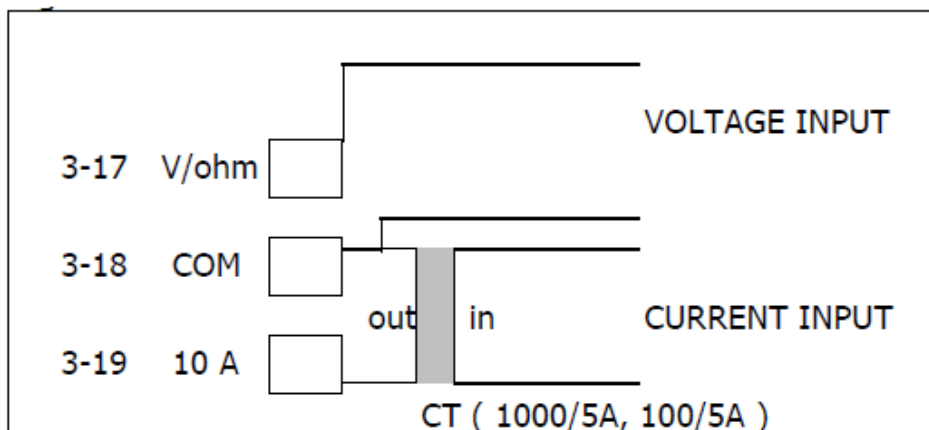

Fig. 3
- Wire connection as follows, refer (Fig. 3)
"V-Terminal" (3-17, Fig. 3) and "COM Terminal" (3-18, Fig. 3)
Current transformer output connect to the "10 A Terminal" (3-19, Fig. 3) and "COM terminal" (3-18, Fig. 3)